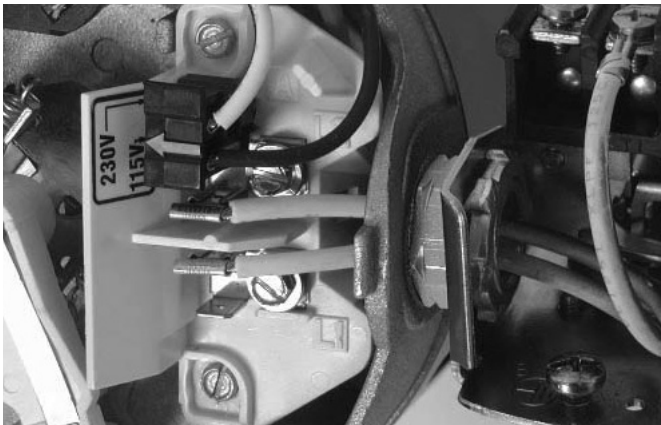

Figure 5: Voltage set to 115 volts, Plug Type
3. Move the voltage change plug to the 115 volt position. The plug will now cover 2 metal tabs and the arrow on the plug will line up with the 115V arrow on the label (see Figure 5).